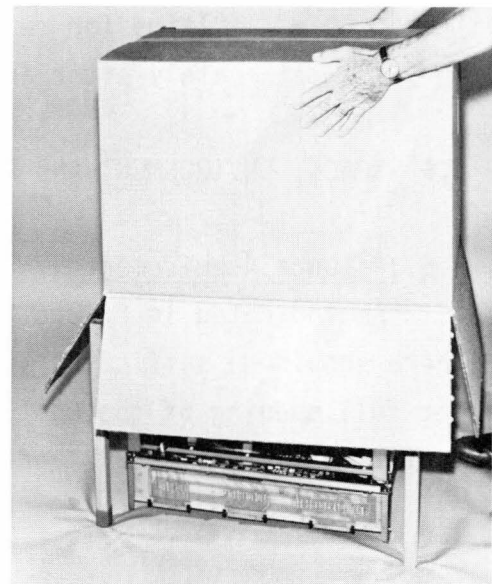

FIGURE 2-5
8. Turn carton over on top which is now open (See Figure 2-5.) and remove carton. (Save carton for reshipment.)